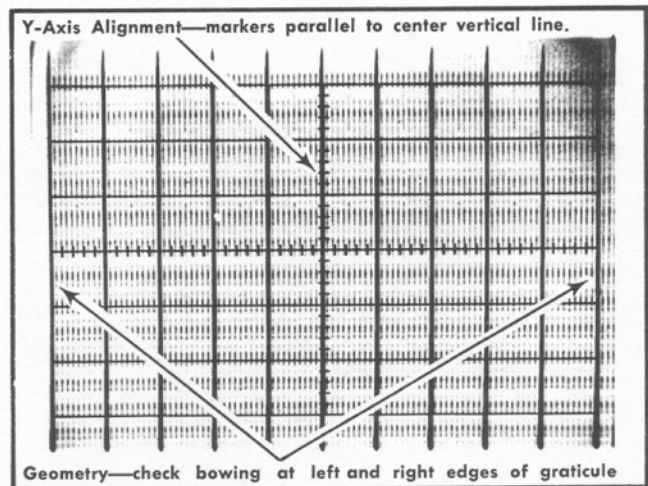

Fig. 5-2. Typical CRT display showing good geometry and y axis alignment.
- CHECK—Marker parallel to the center vertical line within 0.1 division (see Fig. 5-2).
- CHECK—Bowing and tilt of markers over entire display area within 0.1 division or less (see Fig. 5-2).